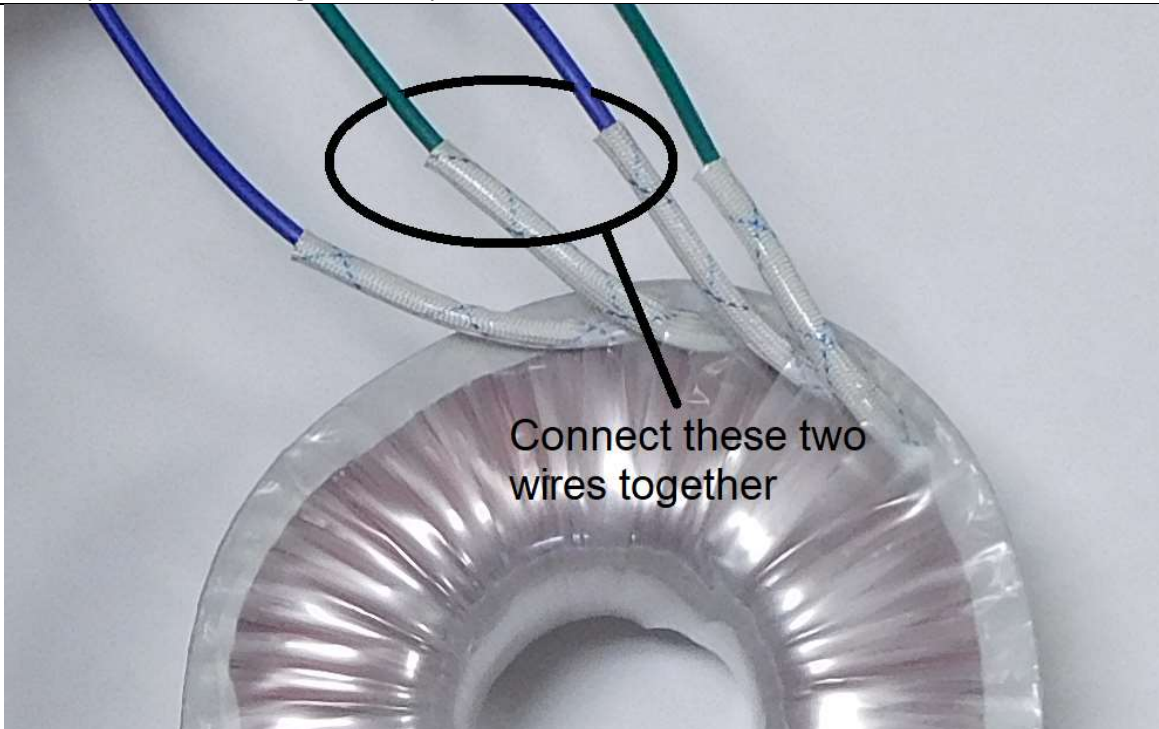

Figure 3-Showing inside blue and green wires
3. Select the inside blue and green wires as called out in Figure 3. Use your ohmmeter to measure the resistance between these two wires. It should read open circuit if you have picked the right blue and green wires.
4. Form a twisted pair from these two wires. Twist the stripped ends of these wires together. See Figure 3. Solder the twisted connection.